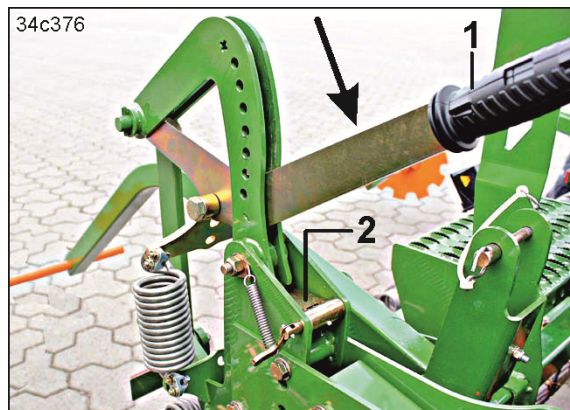

Fig. 195
4. Push the lever (Fig. 195/1) in the direction shown by the arrow until the clamping plate (Fig. 195/2) engages.